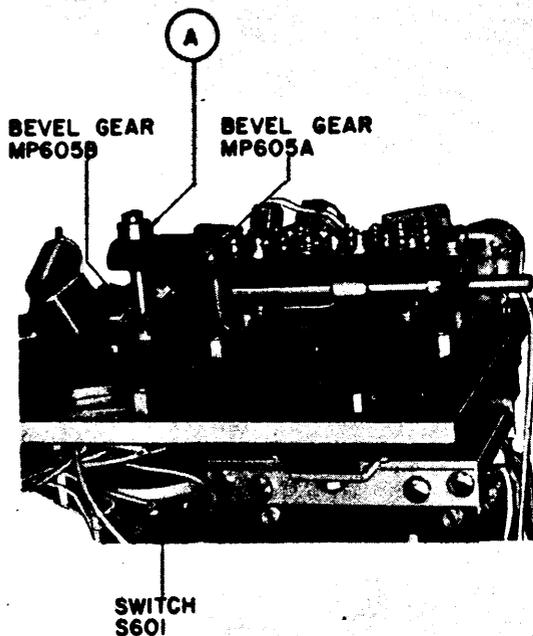

Figure 6-16. Electrical Frequency Control C-2764/WRT-2 Interpolation Oscillator, Replacement of Switch S601
Step 8. Refer to figure 6-16 and unpin collar A from switch S601. Remove the collar.
(e) XTAL OSC LOG.—The counter M602 (XTAL OSC LOG), which is located on the outside front panel of the oven, is removed by backing out the four mounting screws in the block. The shaft of gear MP601 (see figure 6-16) must first be uncoupled inside the oven.